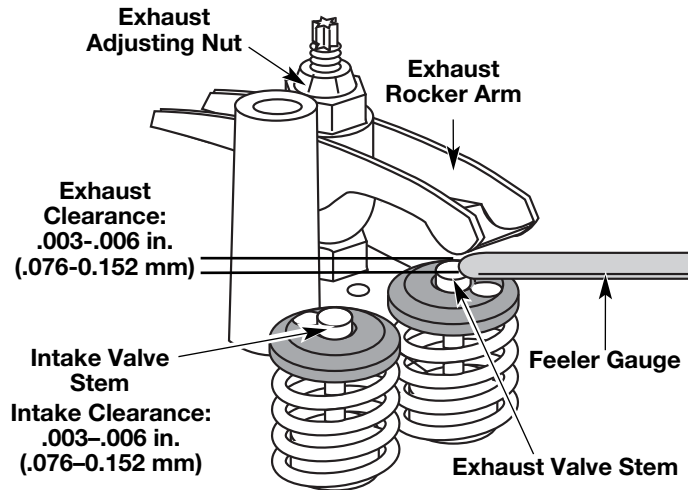

Fig. 38
- Turn the adjusting nut using a 5/16 inch (8 mm) wrench or nut driver (Fig. 38).